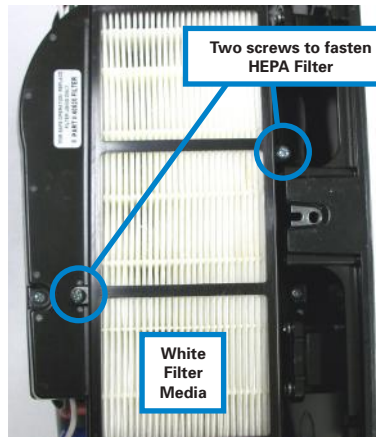

Figure 11
11. Take the HEPA Filter (B) out of the clear sealed plastic wrap and insert the HEPA Filter as shown into the Filter Adapter. DO NOT push on the white filter media. This can result in reduced performance and efficiency. The side with the foam gasket around the perimeter of the HEPA Filter should be placed into the Filter Adapter first. Position the filter so that the filter label is facing away from the wall. Fasten the HEPA Filter to the Filter Adapter with the two control screws previously removed in Step 2. **(Figure 11)**